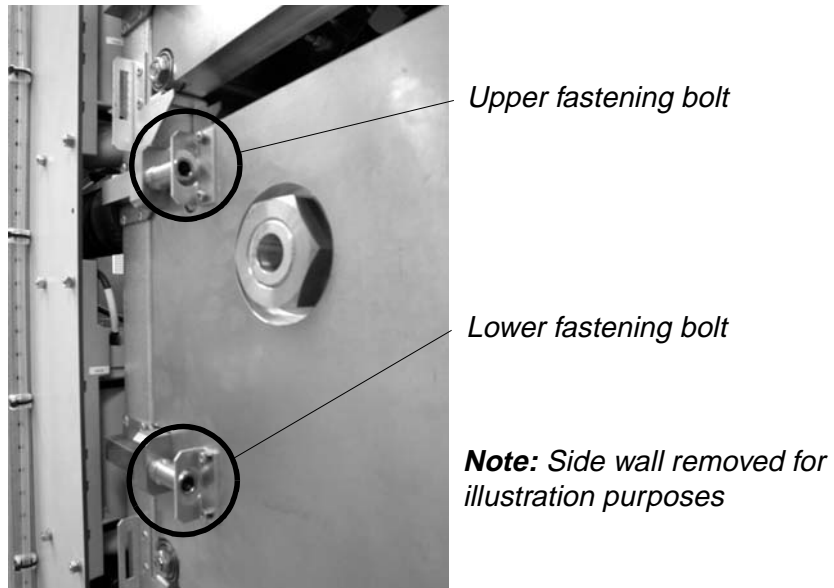

Figure 4-7 Fastening Bolts
- 9** Unscrew the fastening bolts at the back. There are two bolts on each side. Unscrew the lower fastening bolts and then the upper fastening bolts (see *Figure 4-7*). The phase module will be lowered and the wheels of the module will touch the rails.